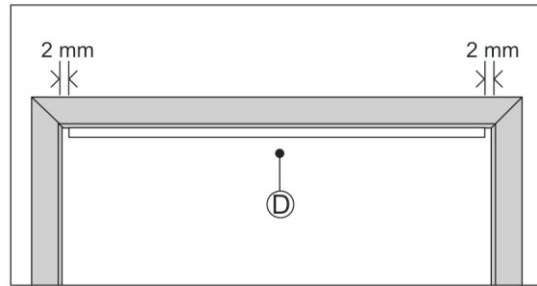

fig. 8
1. Position Top Track **D** in the centre of the doorway. Allow a 2 mm gap on either side between the Track and the Door Jambs. See fig. 8.